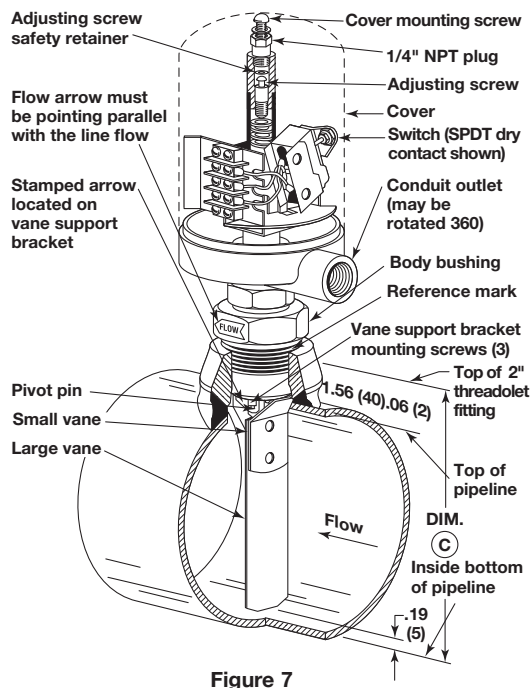

Figure 7
4. Check position of the arrow stamped on vane support bracket. This arrow should be pointing parallel with the flow arrow on the body bushing. Refer to Figure 7. If arrows are not parallel, remove the three vane support bracket mounting screws and rotate bracket until the stamped arrow is pointing parallel with the flow arrow; replace mounting screws.